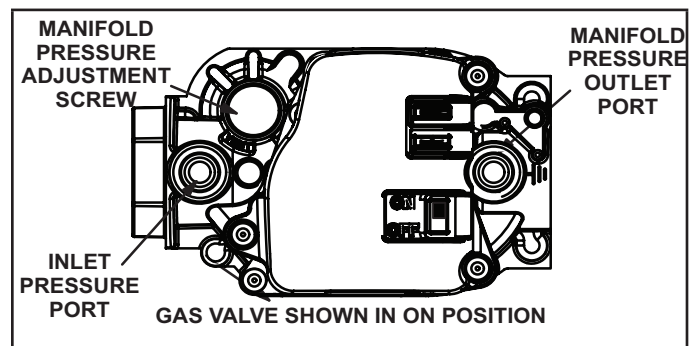

FIGURE 66
Gas Valve Operation (FIGURE 66)
- 6 - Move gas valve switch to OFF. See FIGURE 66.
- 8 - Move gas valve switch to ON. See FIGURE 66
When testing supply gas pressure, use the 1/8" N.P.T. plugged tap or pressure post located on the gas valve to facilitate test gauge connection. See FIGURE 66. Check gas line pressure with unit firing at maximum rate. Low pressure may result in erratic operation or underfire. High pressure can result in permanent damage to gas valve or overfire.